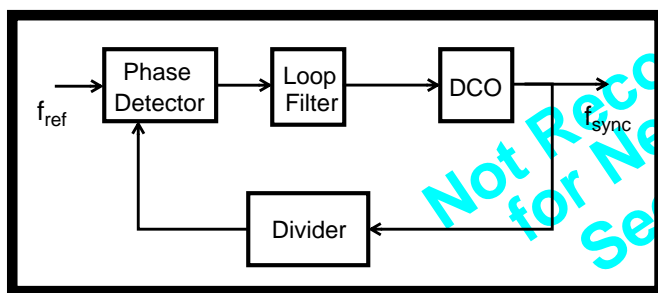

Figure 3 - PLL Block Diagram
As shown in Figure 3, the PLL of the MT9041 consists of a phase detector (PD), a loop filter, a high resolution DCO, and a digital frequency divider. The digitally controlled oscillator (DCO) is locked in frequency ($n \times f_{ref}$) to one of three possible reference frequencies, configured using pins FSEL1 and FSEL2. The PLL is capable of providing a full range of E1/T1 clock signals synchronized to the primary PRI input. The loop filter is a first order lowpass structure that provides approximately a 2 Hz bandwidth.